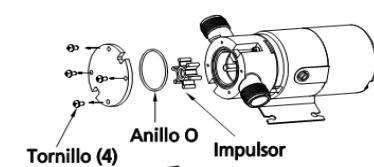

Figura 3 - Desmontaje
- Remove the 4 body screws, the O-Ring, and the impeller (Ver Figura 3).